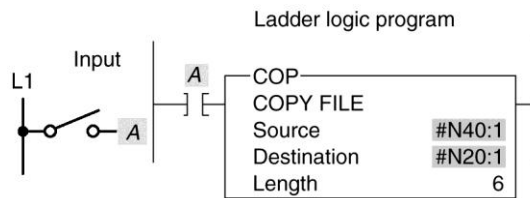

Figure 10-6 File copy (COP) rung for question 12.
12. For the file copy (COP) instruction rung of Figure 10-6,